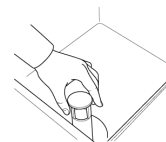

Fig.39
- 2- Open the door and remove the water flow device and close the door. (Fig.39)